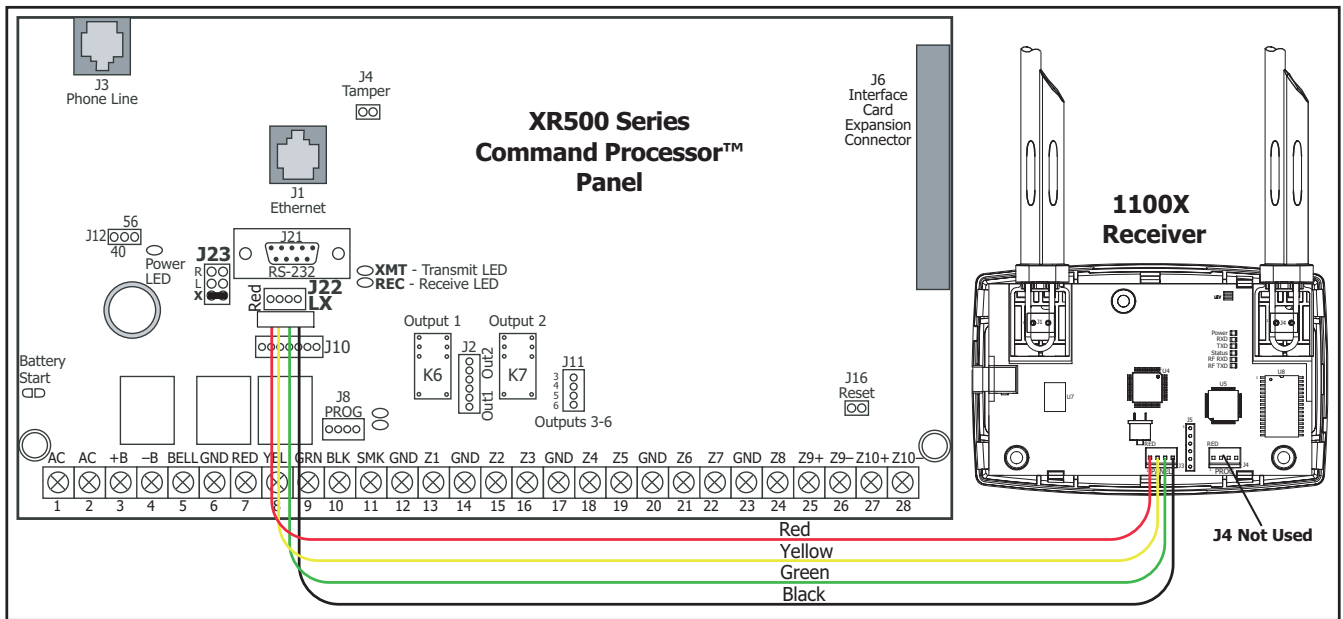

Figure 3: XR500 DMP Wireless Bus Wiring
Refer to Figure 3 on the next page, the XR500 Series Installation Guide (LT-0681), the XR500 Series Programming Guide (LT-0679), the XR100 Series Installation Guide (LT-0899), the XR100 Series Programming Guide (LT-0896), and use the following steps to connect the panel and receiver:
Figure 3 shows the XR500 Series panel and the 1100X Wireless Receiver connection. Connection to the XR100 Series panel is the same.
- Verify that the XR500/XR100 panel XMIT and REC LEDs alternately flash on and off at a rate of 1/4 second each. If the LEDs are On steady or Off, the panel and receiver are not communicating properly. (See Figure 3 above).